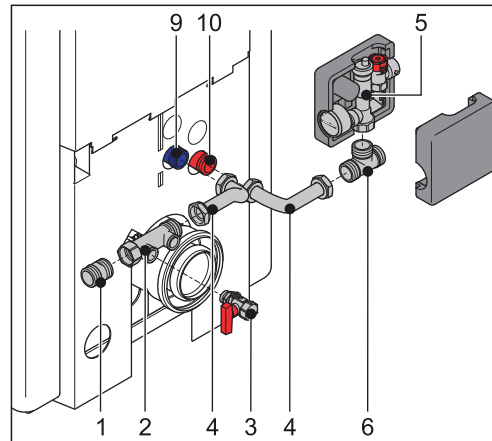

Fig. 8-2 Installation of safety group SBG A1 (for legend see fig. 8-1)
- Install the components of the safety group SBG A1, as shown in fig. 8-2, to the flow and return connections of the ROTEX A1 BO.